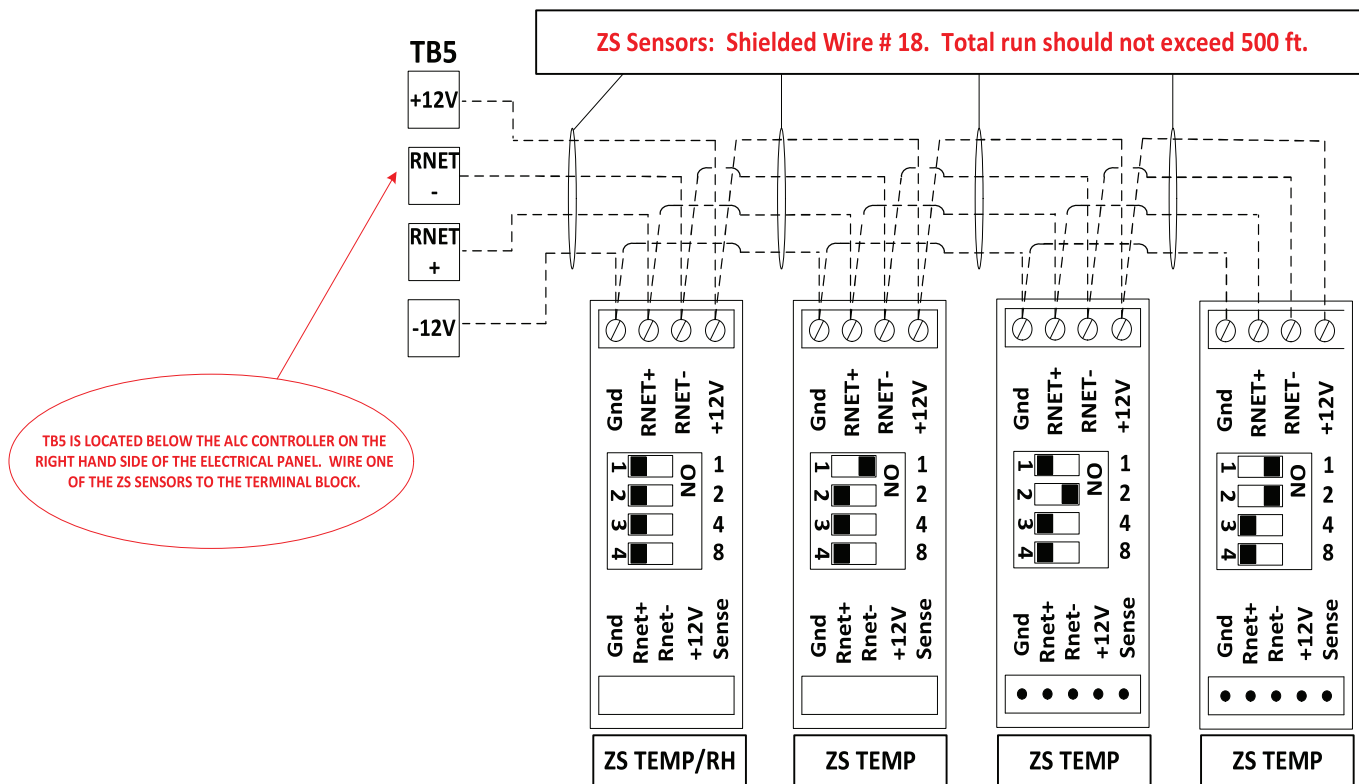

Fig. 67 — ZS Sensors —Wiring and Set Up
See Fig. 67.
- Standard programming can accept up to (5) ZS sensors.
- Room Sensors must be wired in a “daisy chain” configuration. See Fig. 67.